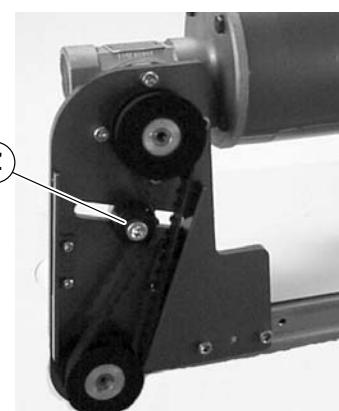

Figure 19
2. Loosen tensioner (Z of Figure 19).